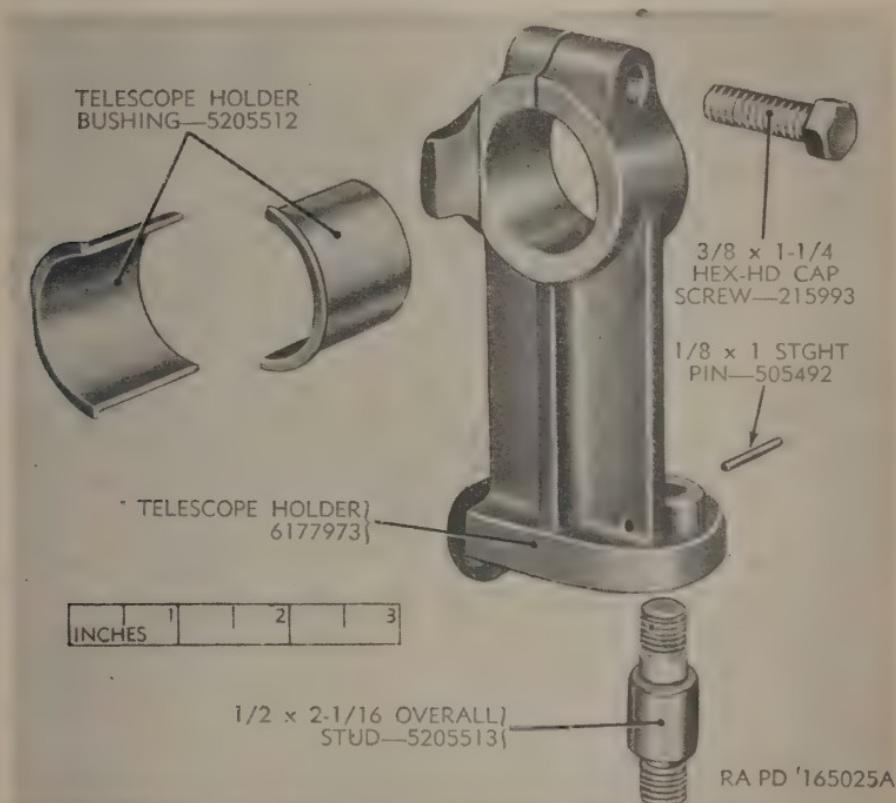

Figure 51. Telescope mount M42—telescope holder assembly—exploded view.
136. Disassembly of the Telescope Holder Assembly (fig. 51)
- a. Press or drive out the straight pin (fig. 51) that locks the stud in place; then unscrew the stud from the holder.
(fig. 51)